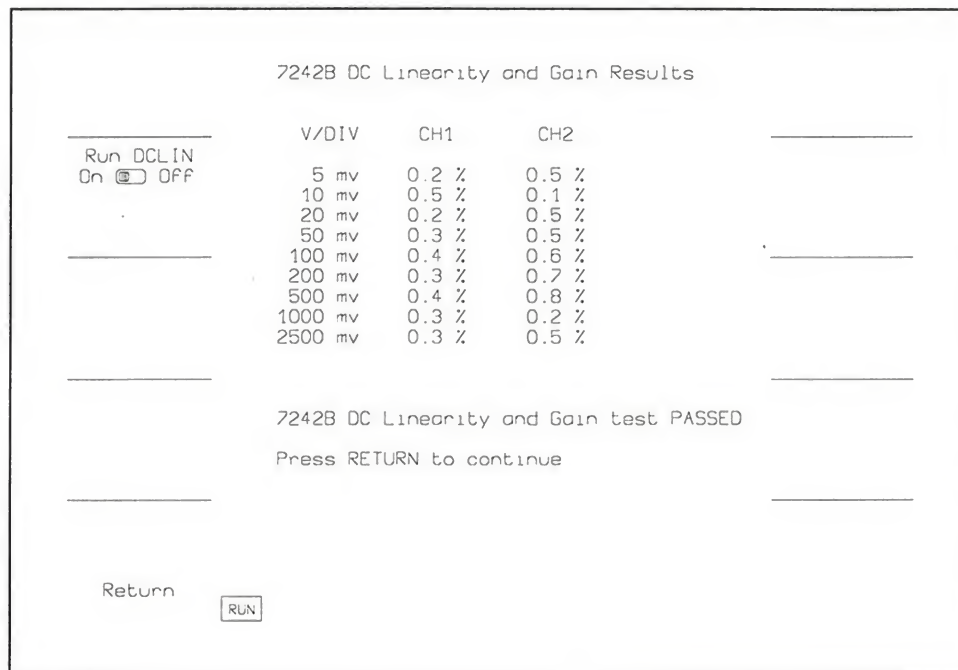

Fig 2.7
- Repeat the above 2 steps until the message in Figure 2.7 is displayed.
Pressing RETURN will end the test. If NO LOG was selected, when the test is complete the results will be displayed on the screen as in Fig 2.7. Record these results in table 2.3.